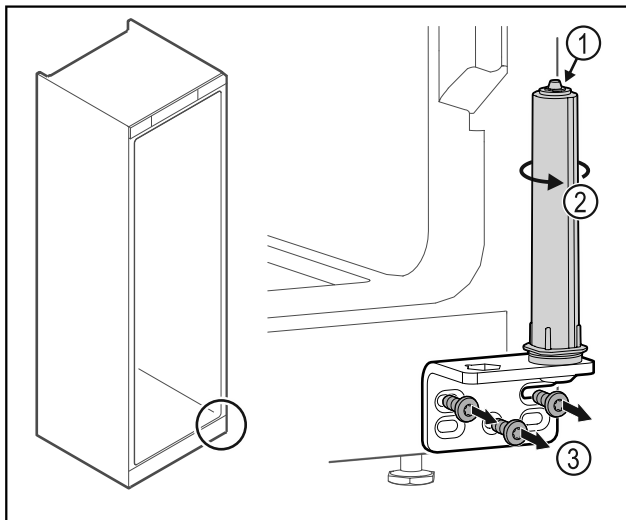

Fig. 56
- Do not disassemble the door closing system Fig. 56 (1).
- Turn the closing system Fig. 56 (2) until it clicks.
- Unscrew the hinge Fig. 56 (3).